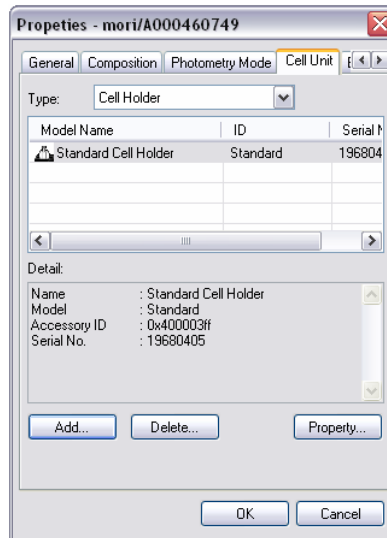

Figure. 2.29 Updated [Cell Unit] dialog box
The contents are displayed as shown in Fig. 2.29.
Additional optional accessories can be registered by clicking the <Add...> button and following the steps (1) to (5). On the other hand, the accessories can be removed by selecting the name of the model to be deleted name as shown in Fig. 2.29 and then clicking the <Delete...> button.
- (5) Click the <OK> button.